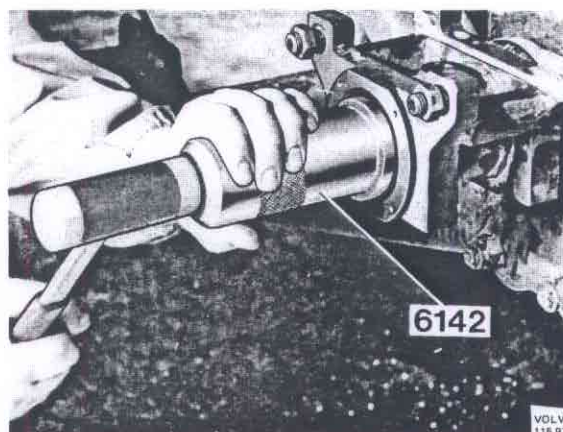

Fig. 76-13. Installing the outer bearing race
4. Tap in the outer bearing race halfway. Grease the lips of the sealing ring and the bearings with a little grease and place the cradle in position. Tap in the bearing race with sleeve 6142 until the sleeve goes against the cradle, see Fig. 76-13.